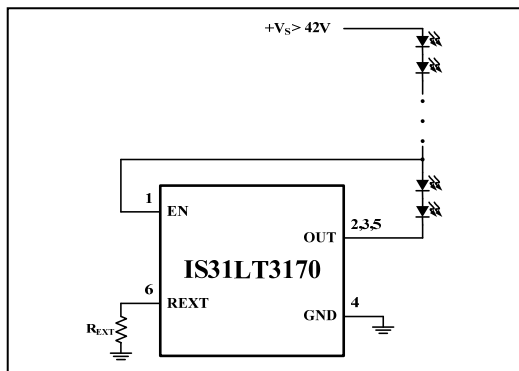

Figure 3 High Input Voltage Application Circuit
When driving a long string of LEDs whose total forward voltage drop exceeds the IS31LT3170  $V_{BD\_OUT}$  limit of 42V, it is possible to stack several LEDs (such as 2 LEDs) between the EN pin and the OUT pins 2,3, and 5 so the voltage on the EN pin is higher than 5V. The remaining string of LEDs can then be placed between power supply  $+V_S$  and EN pin, (Figure 3). The number of LEDs required to stack at EN pin will depend on the LED's forward voltage drop (VF) and the  $+V_S$  value.